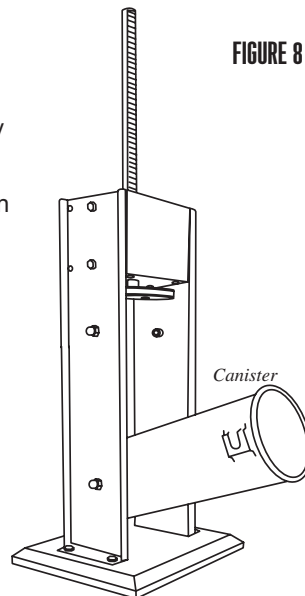

FIGURE 8
2. Fill the Canister with the ground meat and seasoning mixture (**FIGURE 8**).